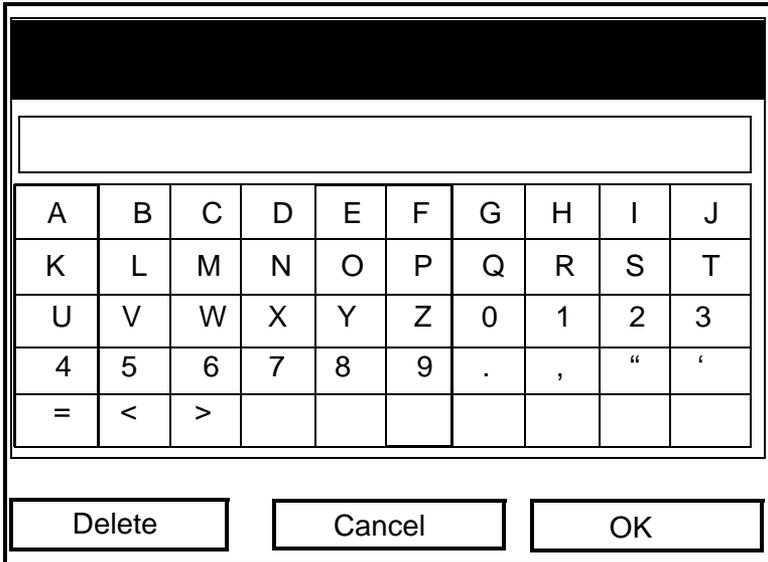

Figure 5-12: The Text Creation Window
2. Press [ENTER] to select “Message,” which opens the text creation window, shown in Figure 5-12 on the next page.